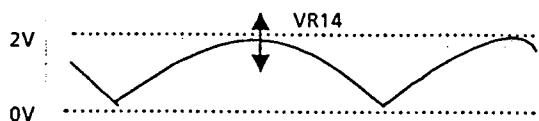

Fig. 4-22
- Adjust VR14 so that the amplitude of parabola waveform becomes 2 Vp-p . (Fig. 4-22)